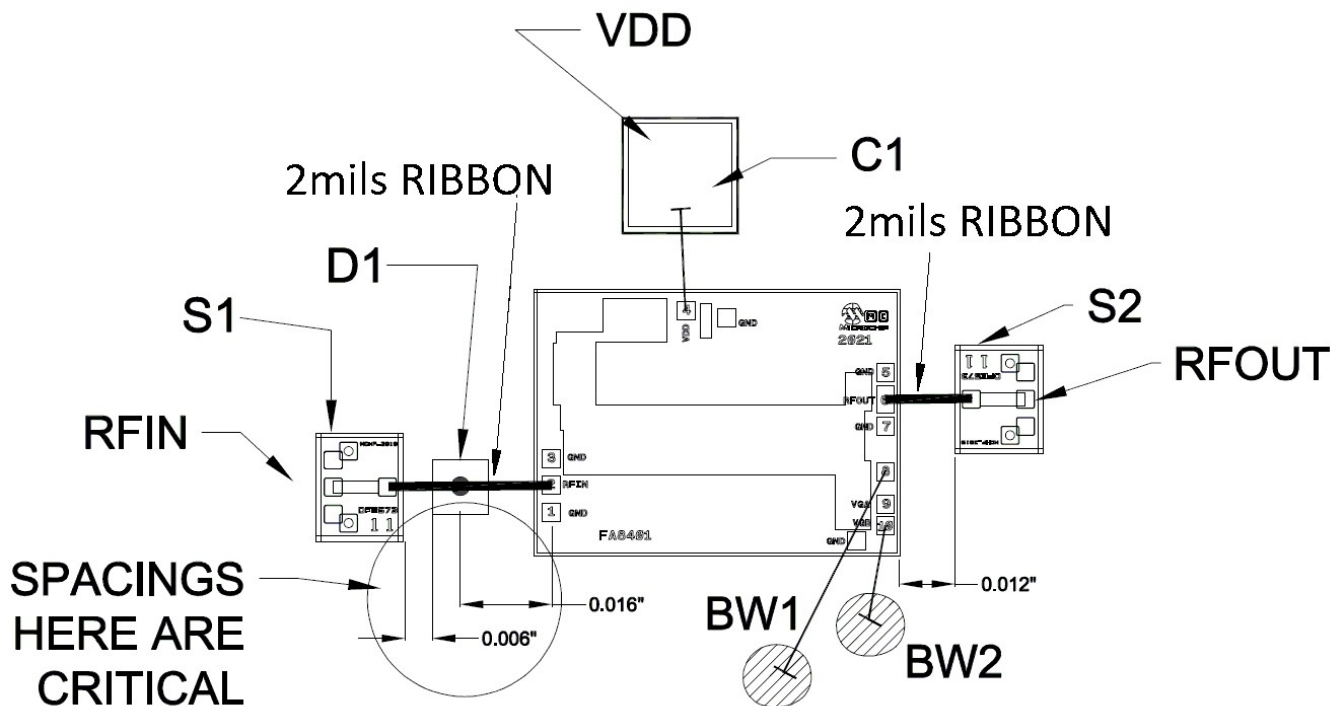

Figure 72 - Applications Assembly with Complimentary External PIN diode (D1)
1.3.4 Typical Performances For Applications Circuit with PIN Diode (Figure 72 -)
The following graphs show the typical performance curves of the MMA047AA device at 25 °C, measurements performed using application circuit shown on Figure 72 -below.